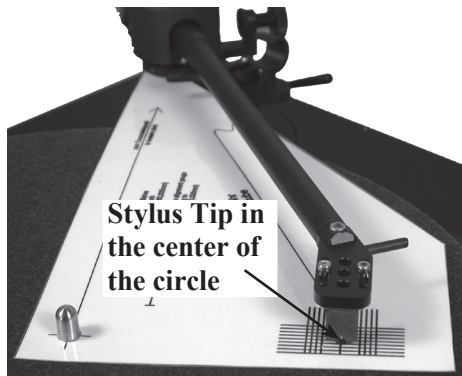

Figure 28
- It is important the Front and Sides of the Cartridge Body line up with these parallel lines when looking down over the top of the Tone Arm. Refer to figures 28 and 29. If it is not parallel, loosen the mounting hardware securing the Phono Cartridge to the Tone Arm. Reposition the Phono Cartridge so the tip of the stylus is in the center of the small circle and the Front and Sides of the Phono Cartridge are parallel to the lines on the Alignment Gauge. Tighten up the mounting hardware and verify the correct alignment.